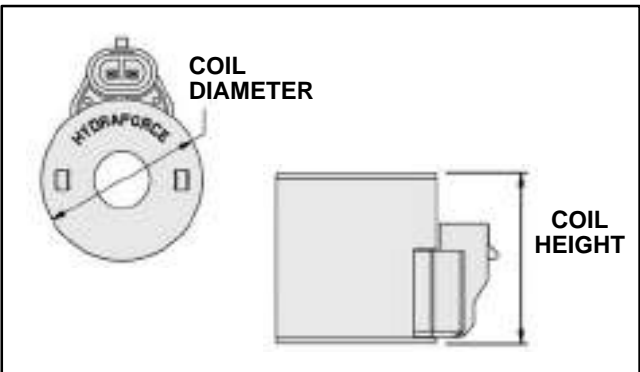

Figure 61
3. Identify coil resistance specification by measuring the coil diameter and coil height (Fig. 61).